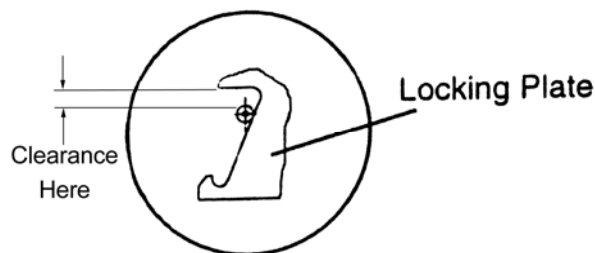

Figure 10
22. Close the doors and position the locking plate so that the roller is near the top of the incline, not at the top (see Figure 10). Depthwise, the locking plate should hold the middle of the roller span.
27. Manually close the doors. For single-slide doors, there should be clearance at the top of incline (see Figure 10).